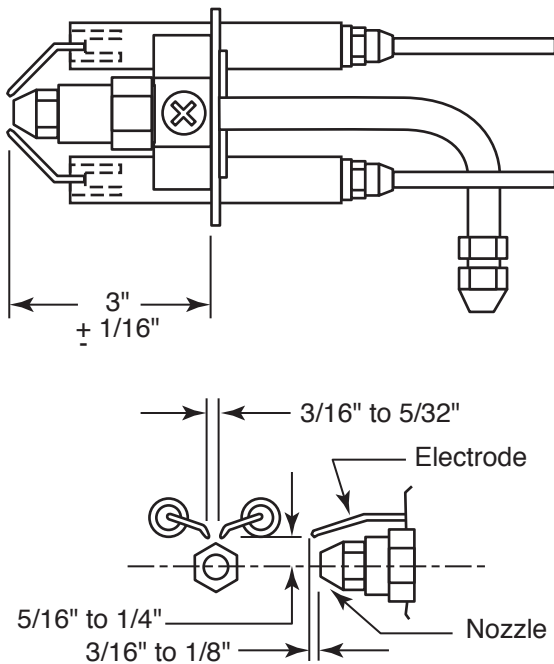

Figure 14. Burner Electrode Adjustments
1. Adjust electrode assembly per Figure 14.